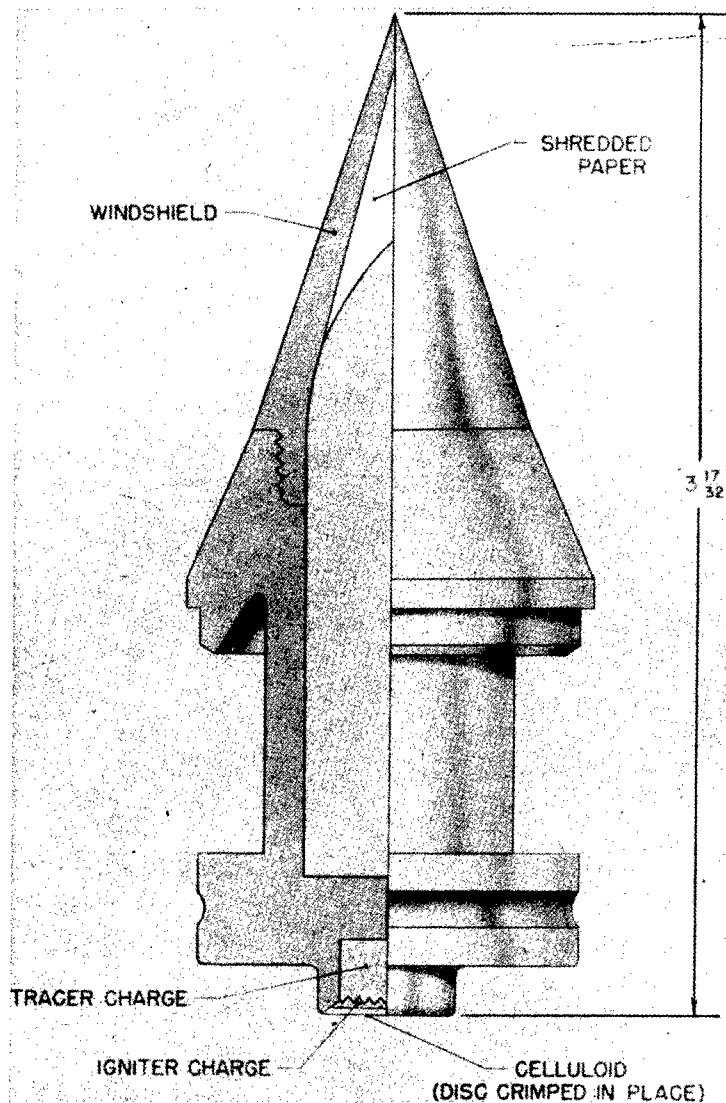

**Figure 338—H. E. Projectile for Tapered Bore Gun, 28-20-mm Sprgr. Patr. Pz. B41**
**GERMAN NOMENCLATURE:** Sprgr. Patr. Pz. B41 (Spreng-granate patrone Panzerbuchse 41). (See fig. 338.)